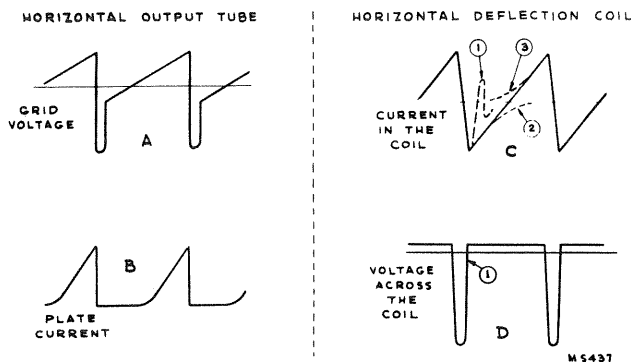

Figure 19—Horizontal Sweep Waveforms
During the latter part of the horizontal trace, the output tubes conduct very heavily and build up a strong magnetic field in the deflection coil and output transformer. When the negative pulse from the horizontal discharge tube is applied to the output tube grids, their plate currents are suddenly cut off and the magnetic field in the transformer and deflection coil begins to collapse at a rate determined by the resonant frequency of the system. Actually the system is shock excited into oscillation. Since the output tubes are cut off and since the voltage generated by the collapsing field is negative on the damper tube plates so that they are non-conductive, there is essentially no load on the circuit and it oscillates vigorously for one-half cycle. If the damper tubes were not present, the circuit would continue to oscillate as shown in Figure 19 (C), curve 1. This condition however is not permitted. One-half cycle of oscillation is permitted because at the end of such a time the current in the deflection coil has reached a maximum in the opposite direction to which it was flowing at the end of the trace period. This reversal of the direction of flow of current is the requirement for retrace and it is accomplished in the allotted 7 microseconds.
As mentioned previously if the coil were not damped, it would continue to oscillate at its natural frequency as shown in Figure 19 (C), curve 1. To prevent such an oscillation the damper tubes are brought into action. These tubes are effectively connected across the deflecting coil.
If no additional energy were fed into the coil the field would fall to zero and the kinescope beam would come to rest in the center of the tube. In such an r-l circuit, as the current approaches its final value, it does not do so linearly but asymptotically as indicated in Figure 19 (C), curve 2. It is therefore necessary to have the output tubes begin to supply
power to the deflection coil before the energy in the coil is completely dissipated. Figure 19 (C), curve 3 shows the shape of the current supplied by the output tubes. Although the currents supplied by the output tubes and by the decaying field are curved at the cross over point, together they produce a coil current that is linear.
damping action over the entire trace. V310 a dual triode is employed to provide the extra damping action required during the first portion of the trace. When the voltage on the damper plate swings positive at the start of the trace, the differentiating network (C331, R350, and R351) in the grid circuit of V310 produces a positive pulse on the damper grid due to the steep wave front of the sweep voltage (shown in Figure 19 (D) at point 1. This positive pulse lowers the plate resistance of the triodes and permits heavy damping current to flow. Then due to the short time constant of the grid network, the positive pulse decays and the bias due to grid rectification of the pulses cuts the triode damper off, leaving the 5V4G to provide the damping for the remainder of the trace.